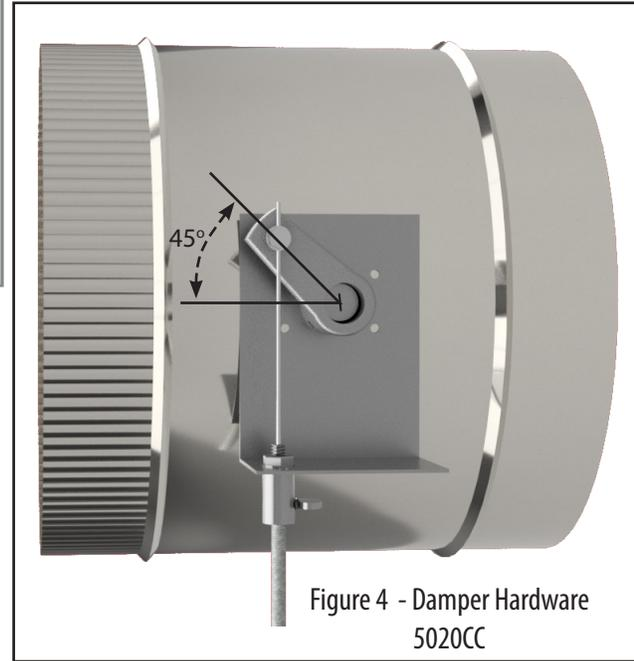

Figure 4 - Damper Hardware
- Confirm the Hub is positioned as shown in figure 4.